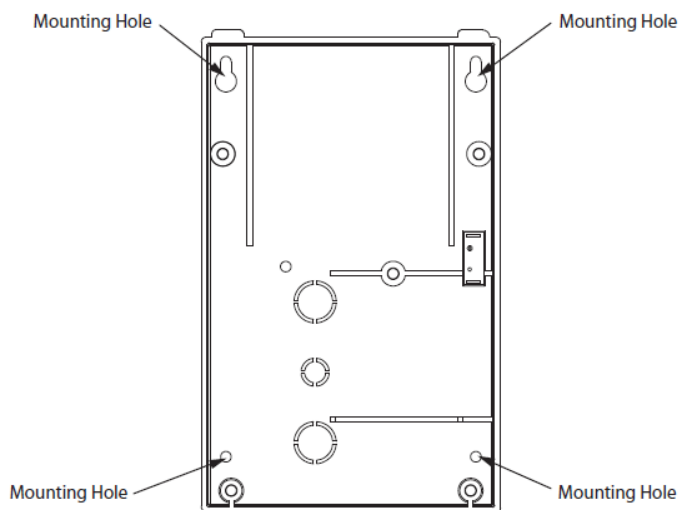

Figure 4A
2. Using the “enclosure base” as template mark the four mounting holes on the wall (See Figure 4A)